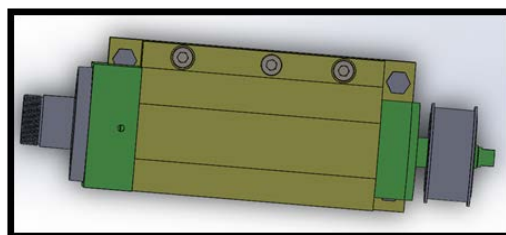

Fig 8.1
8. After measuring, if the parallelism of spindle is slightly above, which looks like Fig 8.1, loosen 3 screws, (Part No. 1-2 / 1-3 / 1-4) (Do not loose screws of Part No.1-1), and use copper bar to slightly kick and adjust it. (Recommendation is under 0.01mm)